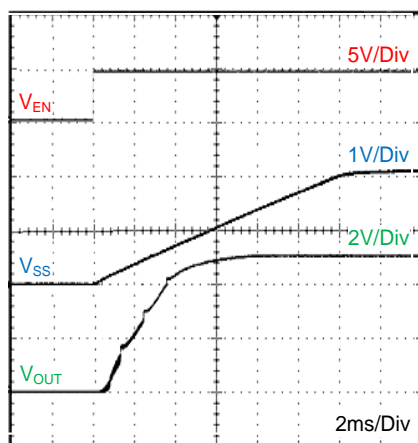
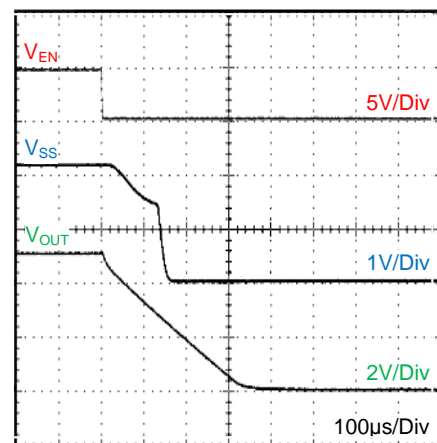

Figure 8. EN start-up  $I_{OUT} = 2A$
Figure 9. EN shutdown  $I_{OUT} = 2A$
Turning Q1 on applies a low voltage to the enable (EN) pin and disables the output of the supply shown in Figure 9. If Q1 is turned off, the supply executes a soft-start power-up sequence, as shown in Figure 8. A regulated output voltage is produced within 5ms.